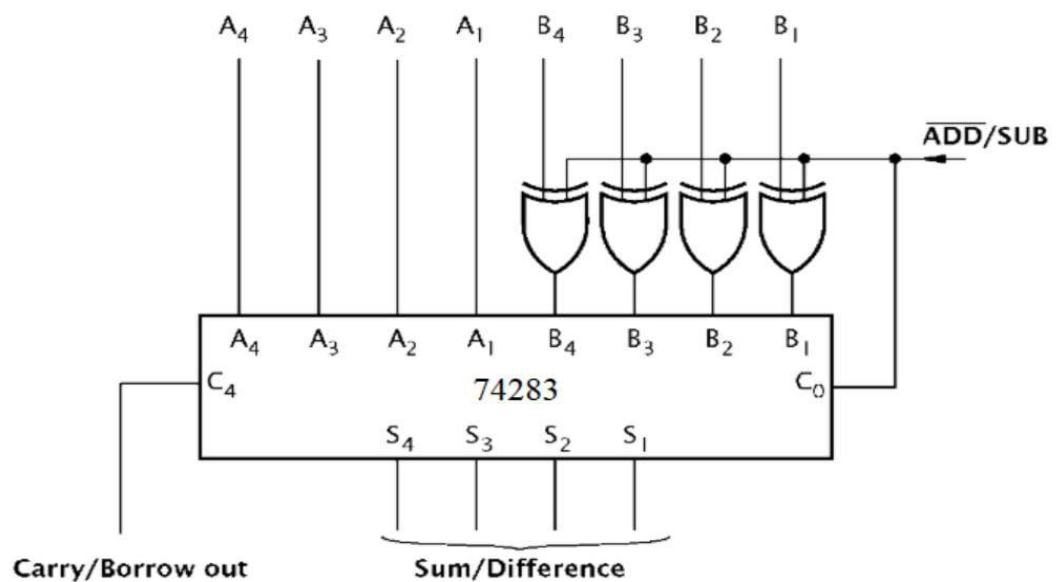

Figure 4.1. Adder/Subtractor Circuit
- Calculate the inputs and outputs of the 4-bit adder/subtractor circuit given in Fig.4.1 for the values given in Table 4.2 and add the filled table to your report.
- Simulate the circuit given in Fig. 4.1 and fill in the table given in Table 4.2. Add simulation results to your report for each row in the table. **(Pay attention to the simulation notes given in the first experiment sheet)**
- iii. Implement the circuit given in Fig. 4.1. on your breadboard. Make sure all ICs have proper power and ground connections. Connect inputs to switches and outputs to LEDs. Fill the table given in Table 4.2.